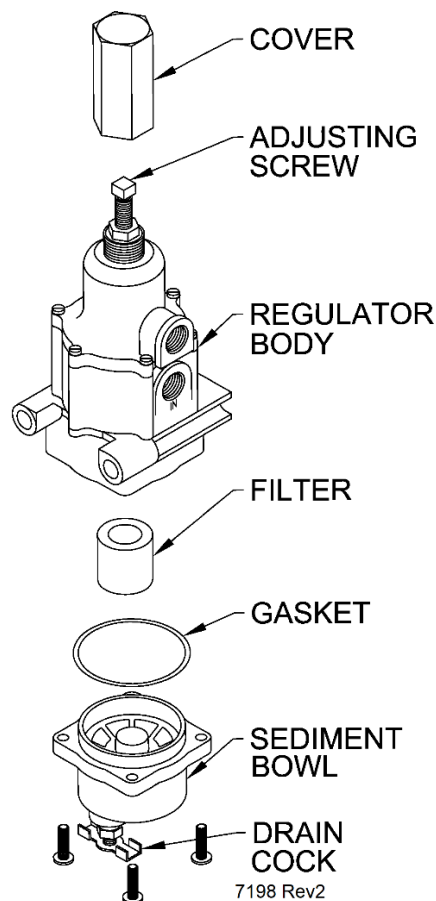

Figure 24 – Pressure Regulator
4. Remove the filter, and gasket. See Figure 24.
1. Install the filter, and gasket onto the sediment bowl. See Figure 24.